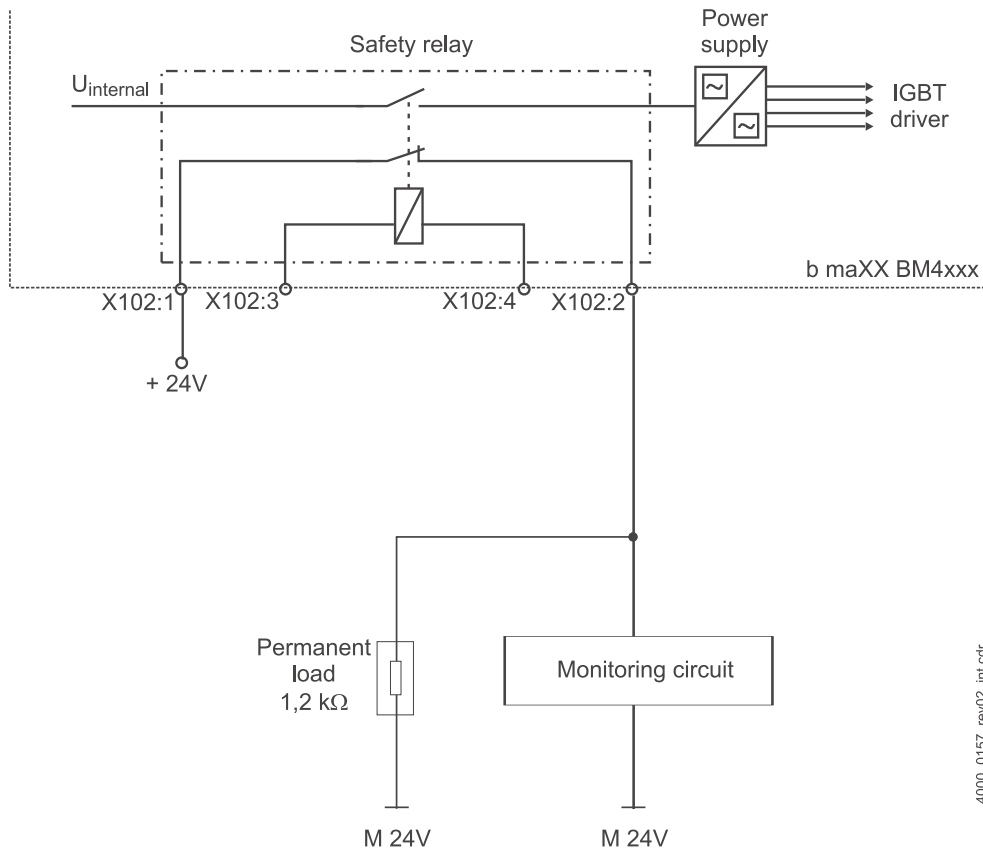

Figure 125: Installation of the feedback contact with permanent load
- 2) A switching current of at least 20 mA is recommended. If the load is below 20 mA the switching current must be increased by a base load (refer to ►Figure 125 on page 376).